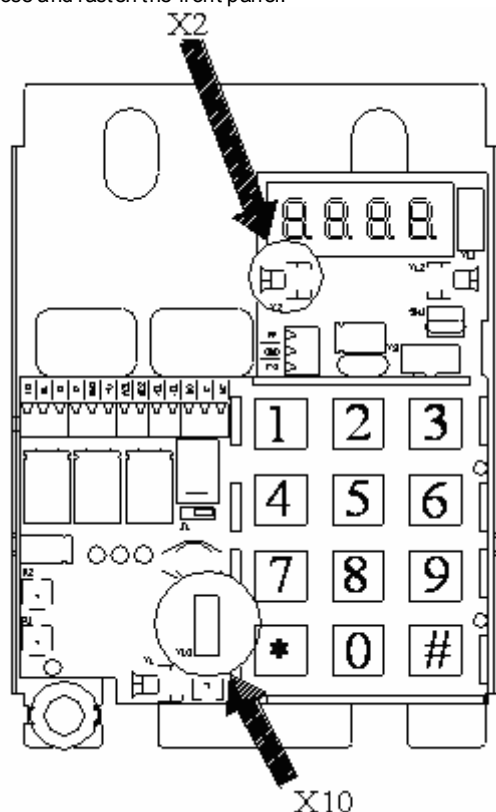

Fig. 2 (PCB assembly kit).
2. Disconnect terminal **X2** (speaker) and **X10** (Dallas key reader). **Fig. 2.**
10. Connect terminal **X2** (speaker) and **X10** (Dallas key reader). **Fig. 2.**
11. Connect terminal **X2** (speaker) and **X10** (Dallas key reader). **Fig. 2.**